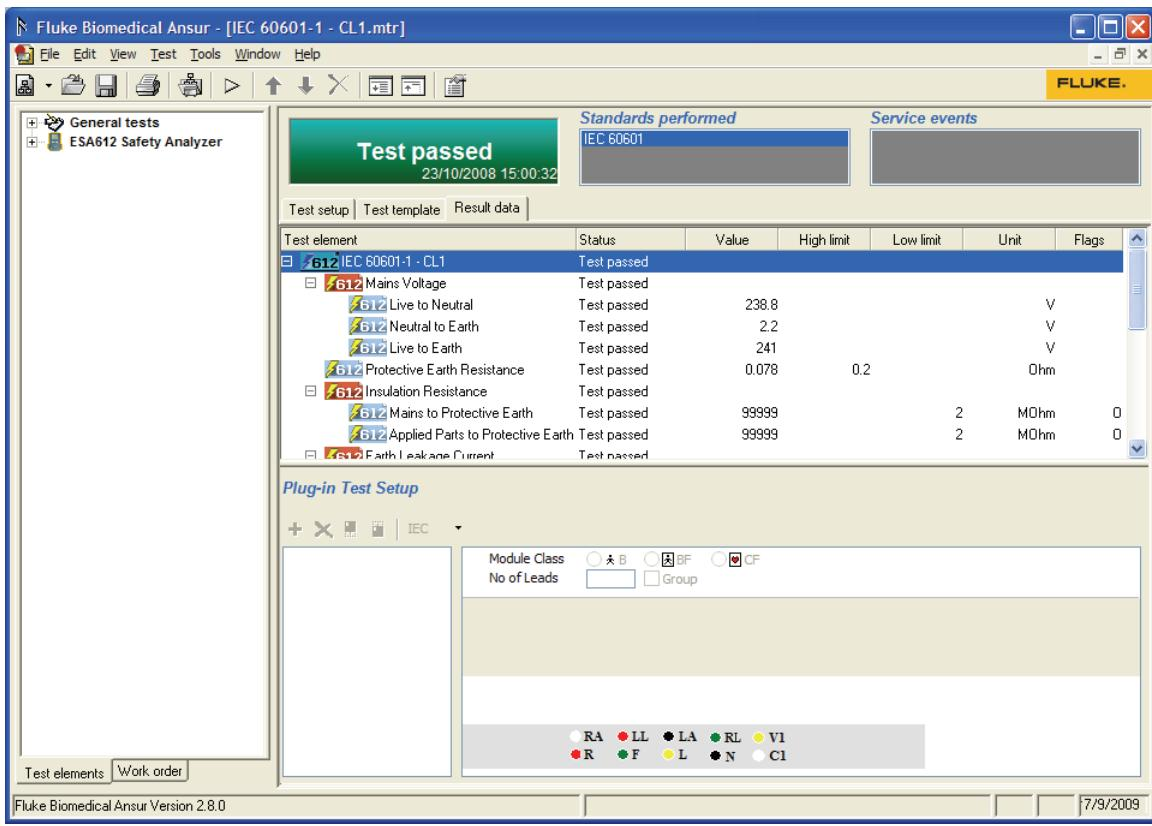

Figure 3-15. ESA612 Test Record
3. To create a Test Record, click the Next button (). The test summary window closes and a test record is opened in the main Ansur window as shown in Figure 3-15.